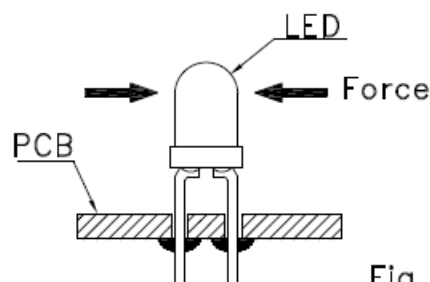

Fig. 9
6. After soldering or other high-temperature assembly, allow the LED to cool down to 50 before applying force (Fig.9).In general, avoid placing excess force on the LED to avoid damage. For any questions please consult with LIGHT representative for proper handling procedures.